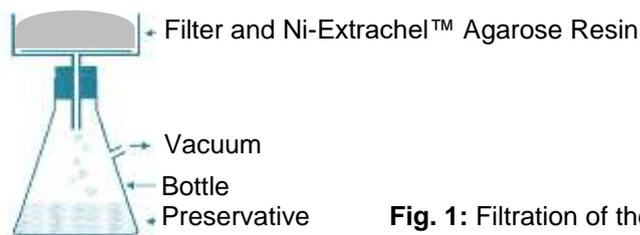

Fig. 1: Filtration of the Agarose suspension
- B. Gently shake the bottle of agarose resin to get a homogeneous suspension. Invert the bottle of resin several times and then filter the resin (Fig.1). Put the resin in a container.